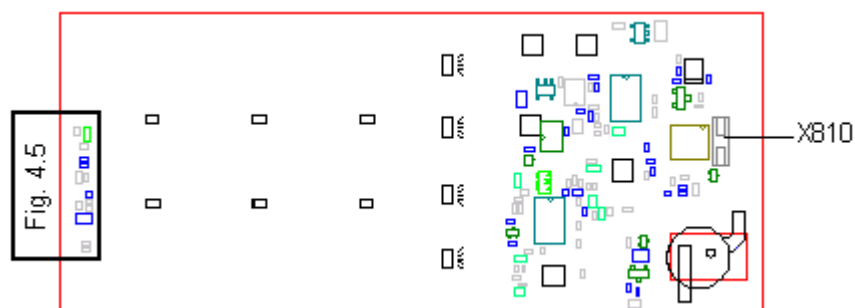

Fig. 4.1
- If the fault remains, make sure the earphone connector (X810, fig. 4.1) isn't faulty or incorrectly soldered.